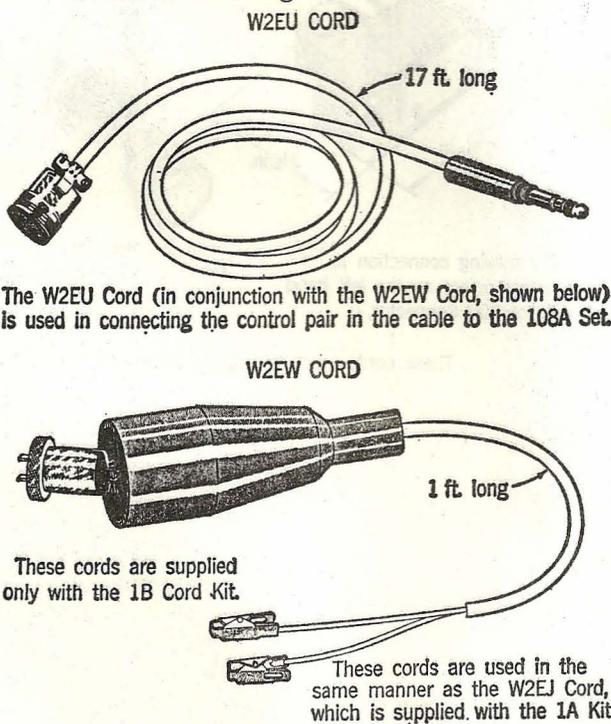

Fig. 7
4.05 W2EU and W2EW Cords: These cords are illustrated in Fig. 7.